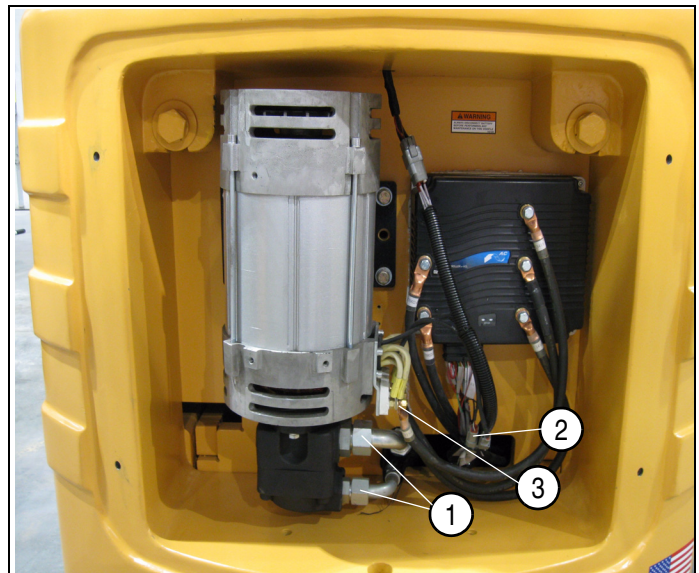

Figure 3-2 Hydraulic Motor and Pump Assembly
4. Remove the rear enclosure cover. (See Figure 3-2)